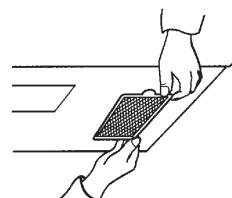

Figure 35
7. Grasp filter screen with one hand holding the ring and the other hand holding the opposite end. Insert the end of the filter screen without ring into the opening and slide towards the side of the microwave oven. Insert ring end of filter screen into the opening and slide entire screen towards the center of the microwave until screen is securely in position. Repeat for other filter screen. See Figure 35.